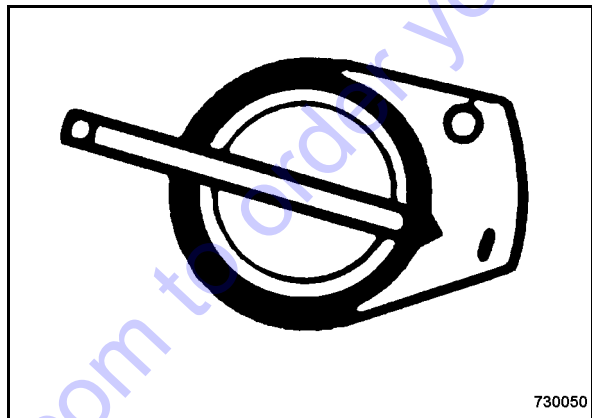

Fig. 19
- Turn the ignition switch to position "I" (Fig. 19).